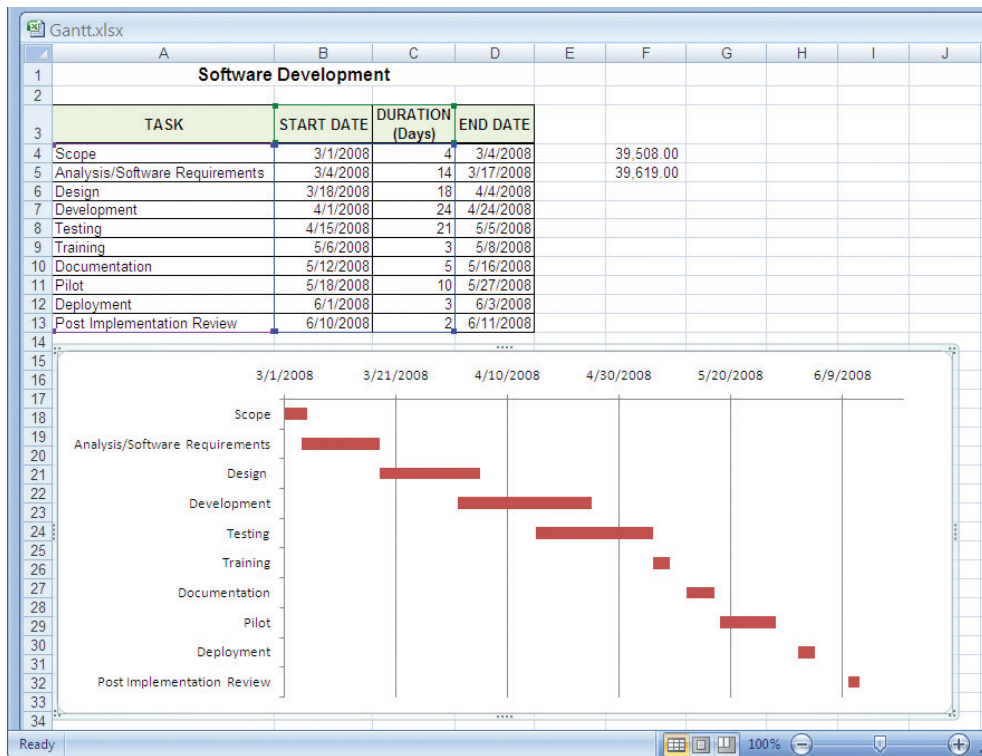

FIGURE T12.7
11. Right-click on any of the dates at the top of your chart, then select **Format Axis**. Using the Axis Options tab, select **Fixed** for the **Minimum**, and type in **39508** (which is the numeric value for 3/1/2008, the start date that you converted in the previous step). Select **Fixed** for the **Maximum**, then type in **39619** (the numeric value for 6/20/2008). Click **Close**. Your Gantt chart should now look like Figure T12.7.